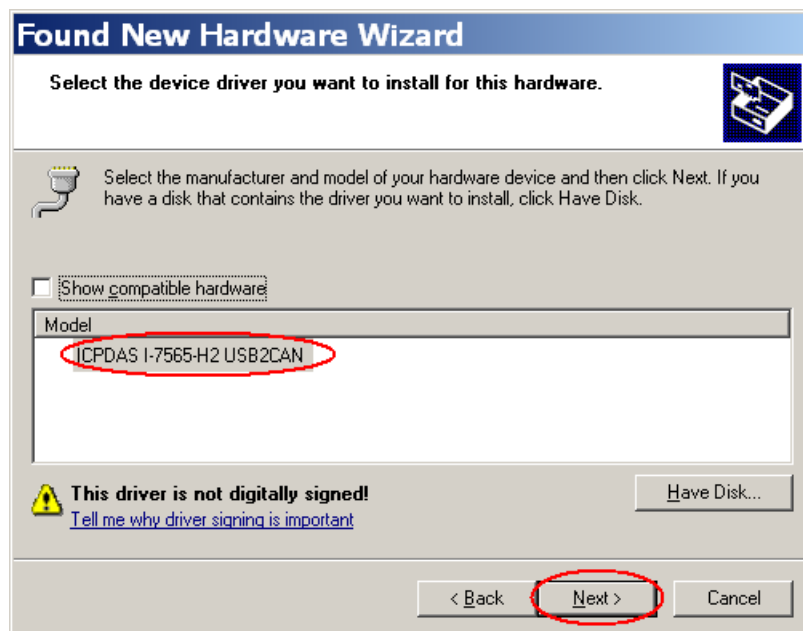

Figure 8-2: Driver Installation of I-7565-H1/H2 (2)
(4) When the Figure 8-2 shows, click “Next” button and the other steps are the same with those in chapter 3.